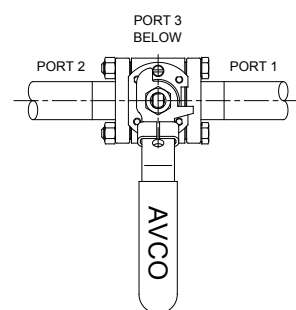

Fig. 3
5.2.1 For valve sizes up to 2" inclusive the lever has an integral stop to give full port 1 flow (port 2 has no flow), or full port 2 flow (port 1 has no flow), port 3 is always flowing. There is also a sliding lockable tab to prevent accidental or unauthorized operation of the valve. To operate, the lockable tab should be slid upwards and the lever rotated in the required direction. The tab can then be released to slide down and locate in its slot. The lever can only be correctly installed in one position. Rotating the lever clockwise increases flow to port 2 and counter-clockwise increase flow to port 1. Mixing can be achieved by setting the valve lever at a position somewhere between full rotation (see fig. 3).
5.2.3 The handle or lever on all valve sizes gives visual indication as to which port is flowing as shown in fig. 3.
- 5.3.3 The handle or lever on all valve sizes gives visual indication as to which port is flowing as shown in fig. 3.